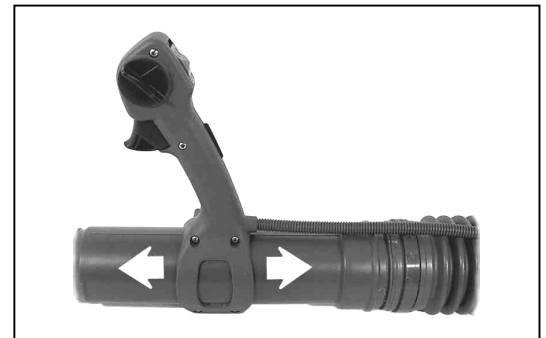

fig.7
- forward/backward movement along the blower tube (fig.7)